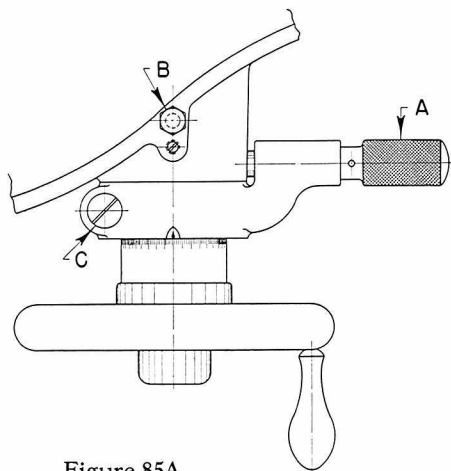

Figure 85A
1. Loosen screw "B" (Figure 85A).
The driving worm of the 16" table may be entirely disengaged from the worm wheel by moving lever "A" (Figure 85A) to the right until the pin falls into the lower pin hole. The table is then free to revolve independently of the worm.